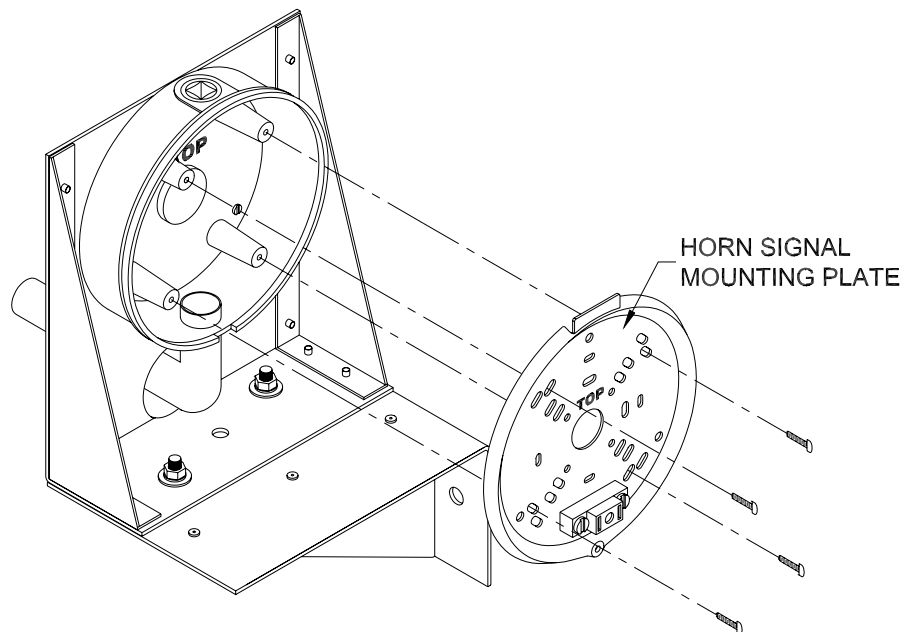

Figure 12 Horn Signal Mounting Plate Attachment
13. Align the horn signal mounting plate with the back box so that the word “TOP” on the horn signal mounting plate and the back box should be oriented in the same direction and the screw hole on the bottom edge of the horn signal mounting plate should be directly over the gap in the back box gasket as seen in figure 12.